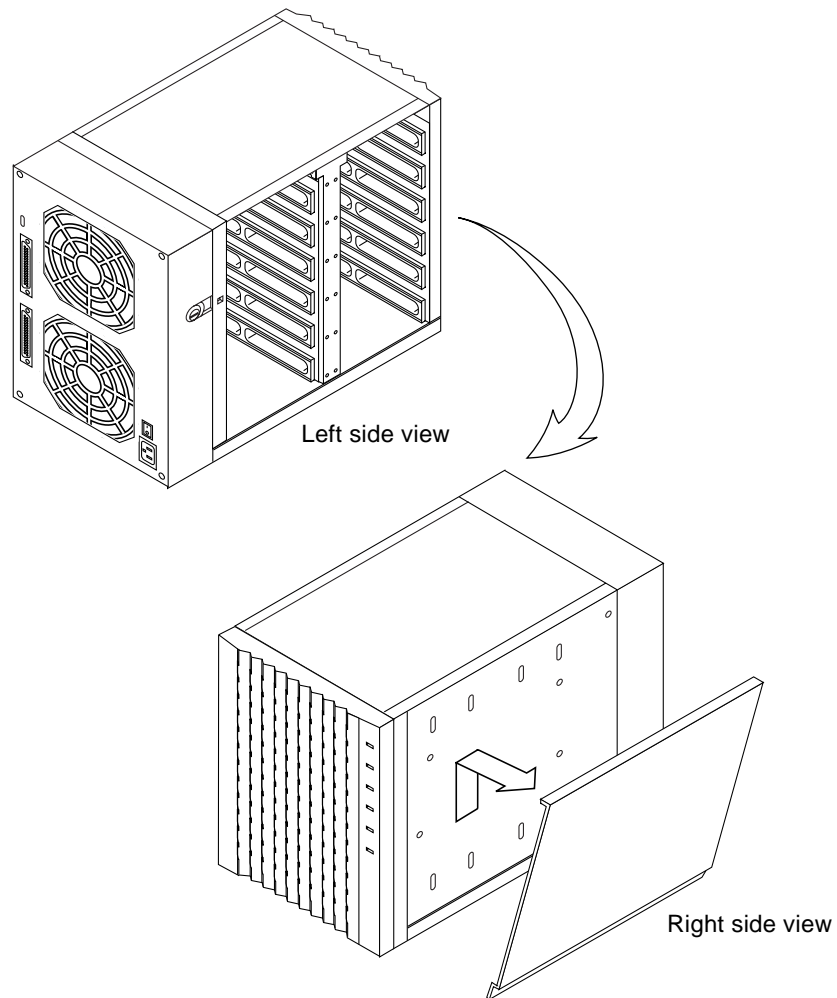

FIGURE 5-8 Removing the Right Panel
7. Use your other hand to help slip off the right panel as you feel it coming loose from the chassis (FIGURE 5-8).
- 1. Align the hooks of the right side panel with the holes and tabs of the enclosure (FIGURE 5-8).**